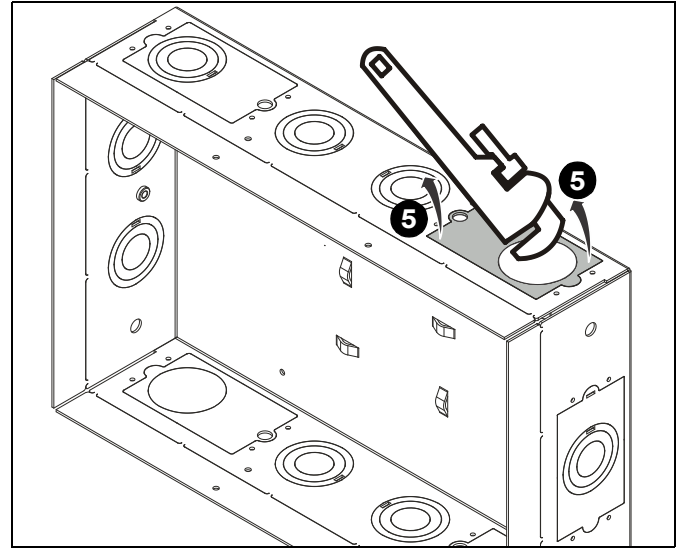

Figure 6
- Remove rectangular knock-out by using locking pliers through removed hole to bend knock-out as needed and maneuver until the tabs are broken and knock-out can be removed. (See Figure 6)